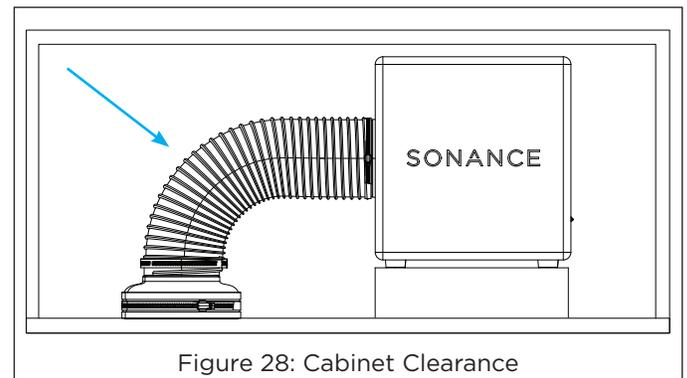

Figure 28: Cabinet Clearance
1. Verify the cabinet has enough internal clearance for the PPX subwoofer and that the toekick height can accommodate the toekick connector and any required adapters (see Figure 28).